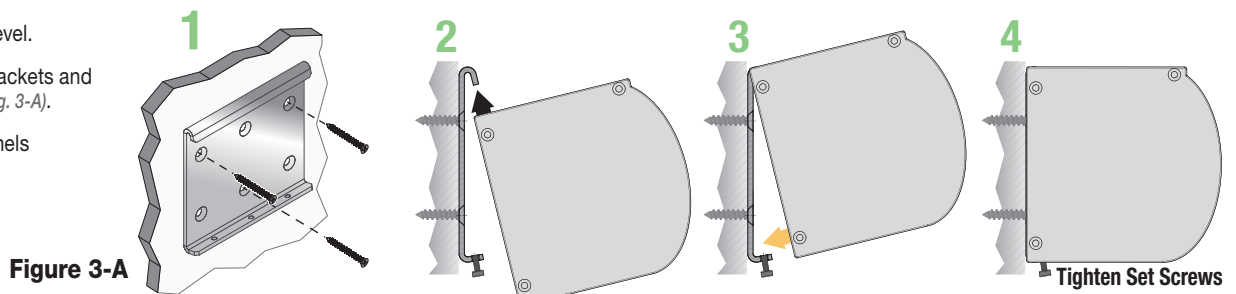

Figure 3-A
4. Attach Headbox to brackets and tighten Set Screws (Fig. 3-A).